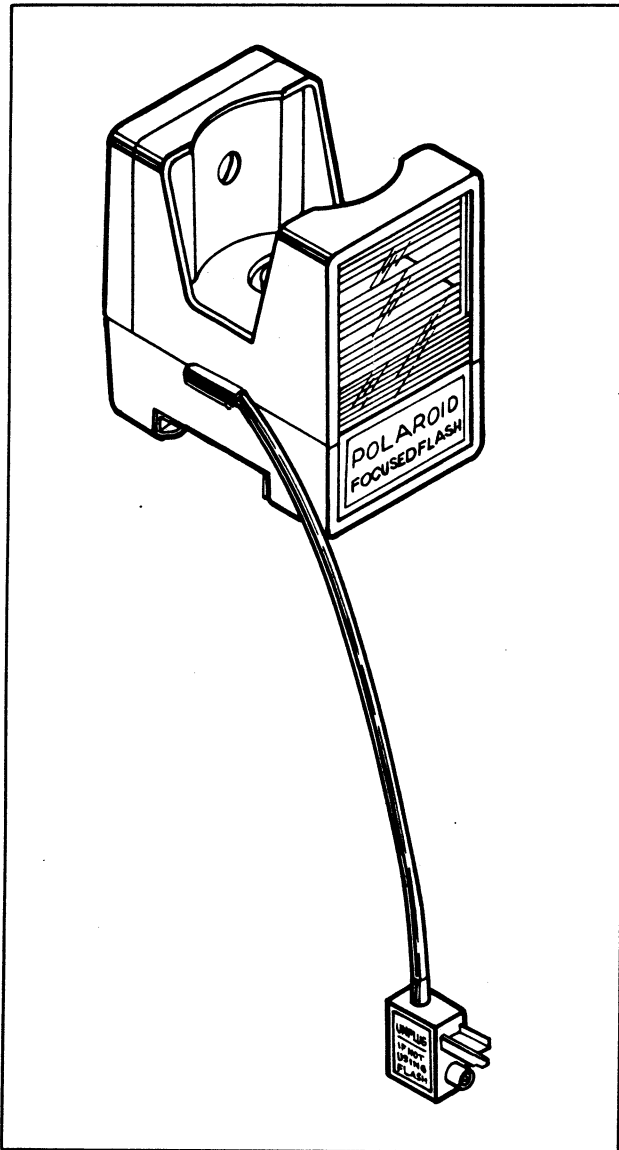

FIGURE 1 MODEL 490 FOCUSED FLASH
B. THE FOCUSED FLASHGUN (Figure 1)